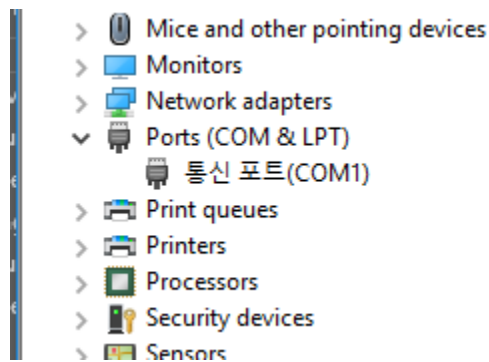

Figure 5: Device manager COM ports
- i. Open “Device Manager” and locate the COM port name used by the lasers. In the case of Figure 5, it would be “COM1”. The name will change depending of the laser type, it might be a bit of trial and error to find the correct one.